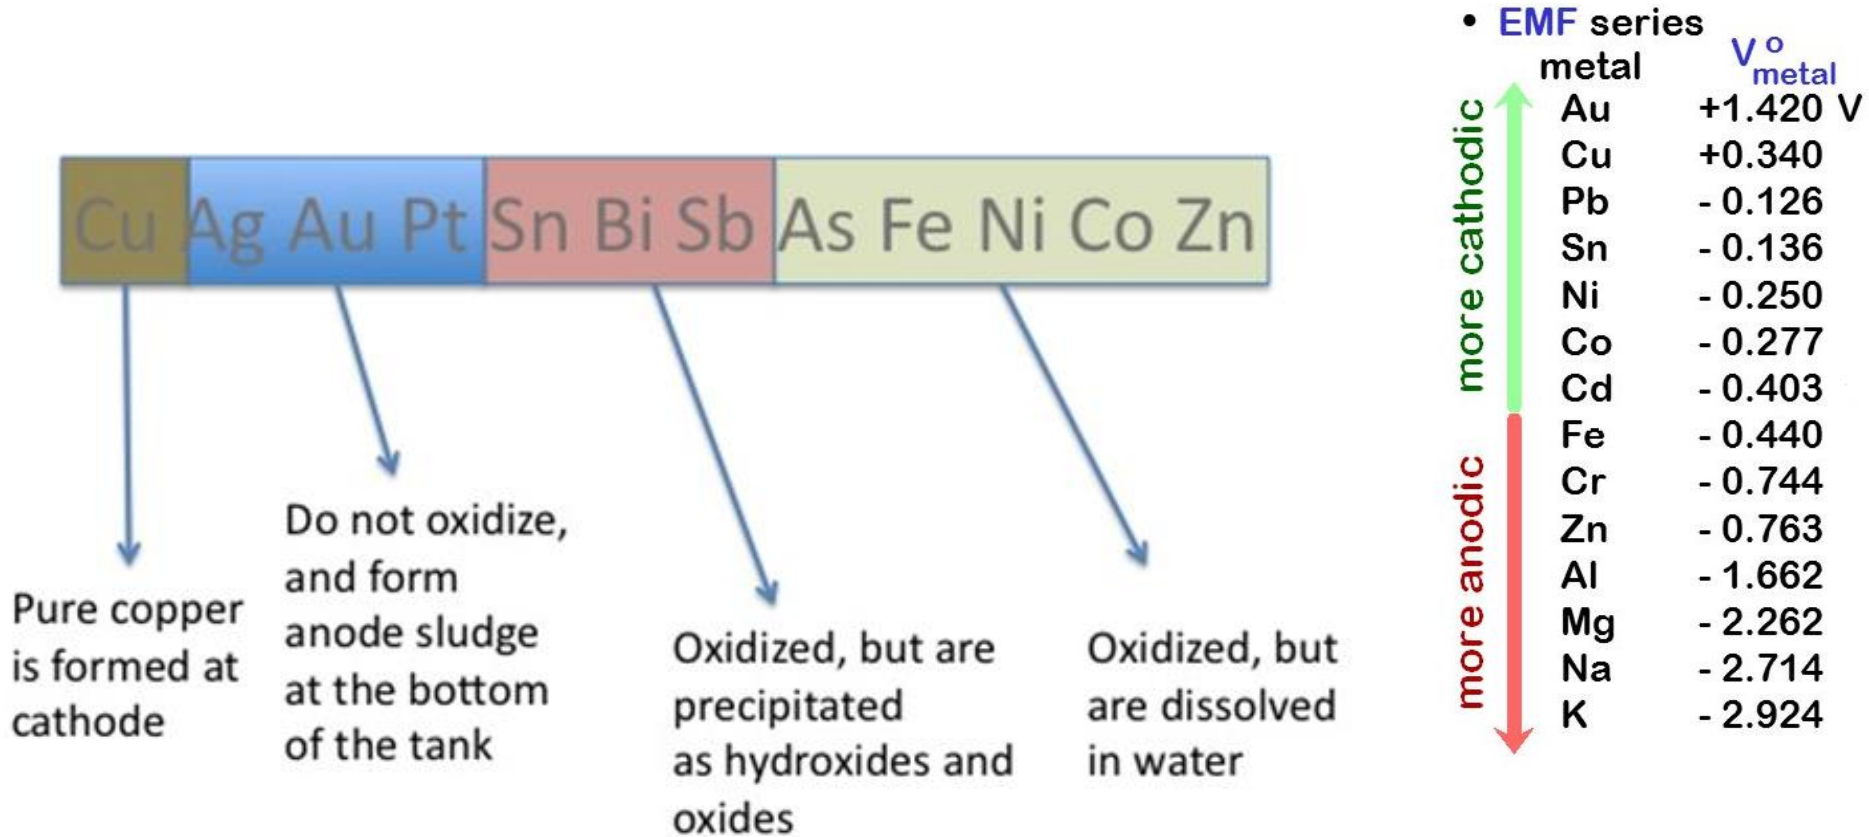

Figure 5.14: metallic impurities with copper
- Crude copper, which is obtained by thermal reduction, consists of two types of impurities (See **Figure 5.14**) :